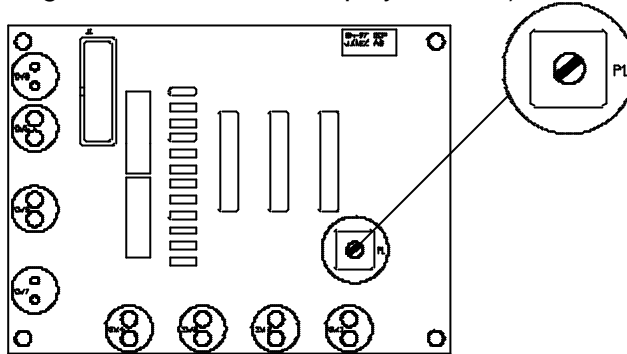

Figure. 17: Adjusting the contrast of the display DSP-97
2. If necessary, adjust the contrast of the DSP-97 display with a small screwdriver (see Figure. 17: Adjusting the contrast of the display DSP-97).